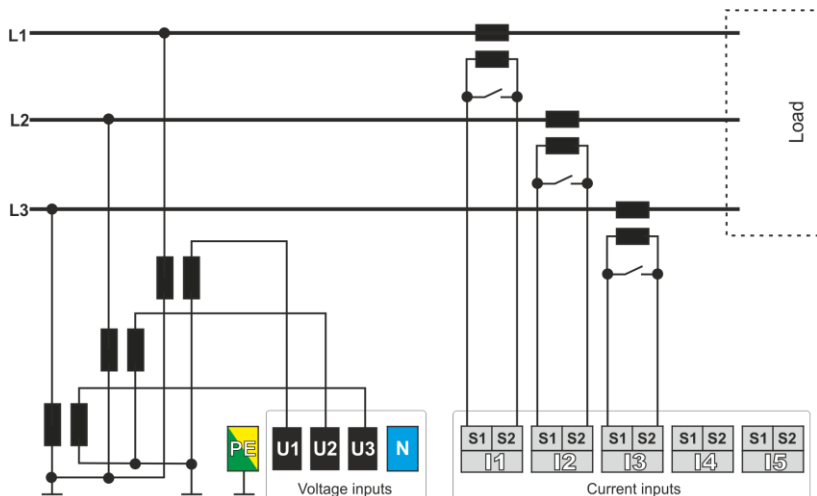

Fig. 30. Wiring diagram – 3-phase 3-wire indirect system with voltage transducers.
- in 3-phase 3-wire network (Fig. 30).